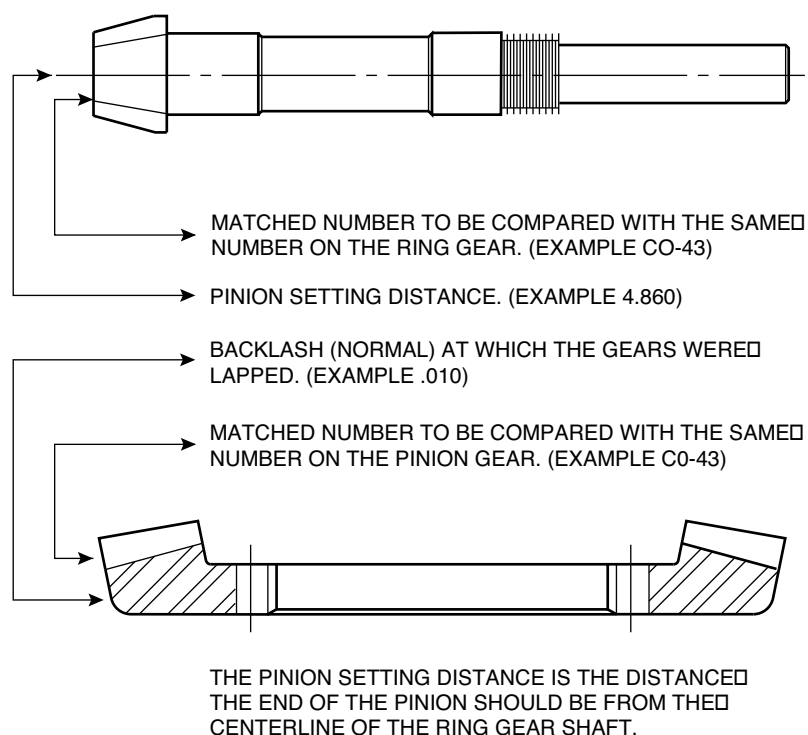

Figure 4 Gear Match Numbers and Setting Data
Note—The thickness of the shim pack (320) is important when resetting the gears. The shim pack should either be saved or carefully measured with a micrometer. If the gears are to be replaced, record the pinion setting distance that is etched on the pinion gear. See **Figure 4**.
4. Remove bearing retainer and shim pack (420) from top of case.
Before assembling a new pinion gear in the pinion cage, check match numbers on pinion gear and spiral bevel ring gear to be certain that they are a matched set. Gears are lapped in matched sets at the factory and should not be separated. Numbers are etched on both the pinion and ring gear as illustrated in **Figure 4**.
1. Place oil slinger (301) on pinion shaft.
2. Press head bearing cone (311) on pinion shaft making sure oil slinger and bearing are against gear.
5. Press tail bearing cone (312) on pinion shaft until it mates with its bearing cup.
7. Install O-ring (503) in groove on pinion cage.
11. Record the pinion setting distance that is etched on the pinion gear. See **Figure 4**.